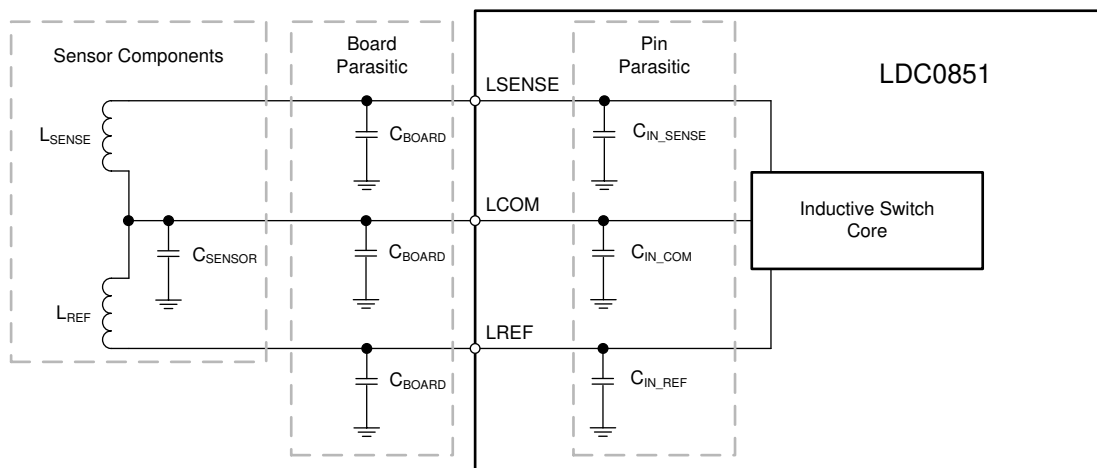

图 7-1. Sensor Components, Board Parasitics, and Package Parasitics Diagram
- $C_{\text{BOARD}}$  is the parasitic capacitance of the board, see 图 7-1
- $C_{\text{TOTAL}}$  is sum of external sensor, board parasitic, and pin parasitic capacitances connected to LCOM, refer to 图 7-1